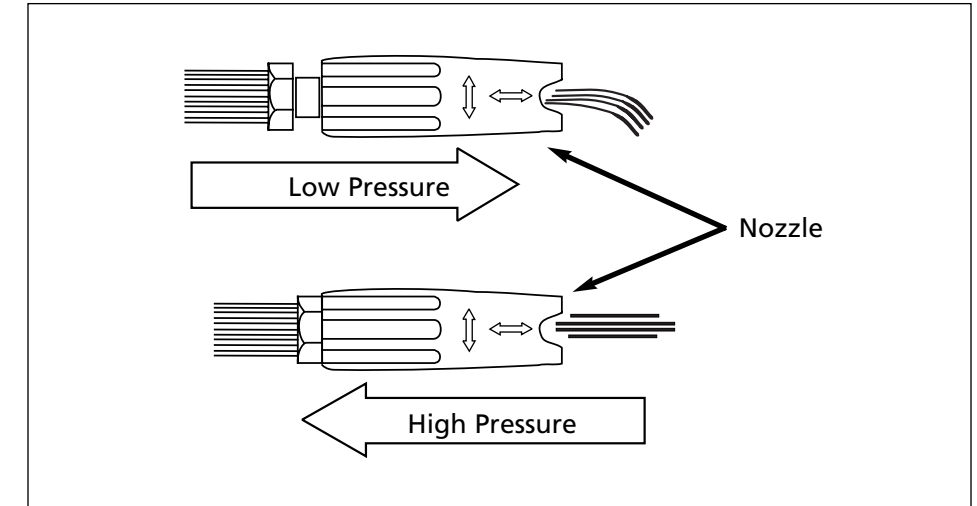

Figure 15 - Adjusting nozzle for pressure
The lance will extend 1/2” and be in low pressure (see Figure 15). Soap can only be drawn in low pressure.
- Place hand around the spraying end section of the lance (the section that turns from left to right). Pull firmly and quickly away from you. **(NOTE: Do not adjust lance while spraying.)** The lance will extend 1/2” and be in low pressure (see Figure 15). Soap can only be drawn in low pressure.